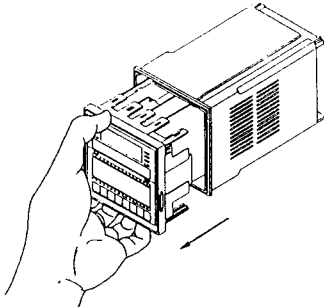
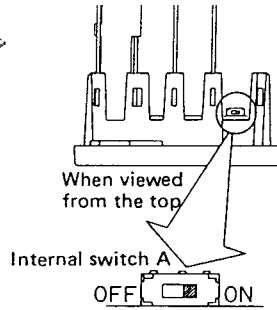

Fig. 1
Fig. 2
As shown in Fig. 1, pull out the internal chassis from the housing while pushing up the stopper at the bottom of the instrument with fingers. Thus, it can be withdrawn from the housing. Next, as shown in Fig. 2, turn ON the internal switch A at the top of the instrument, then push the internal chassis into the housing. Thus the instrument is set to the user initial setting mode.
In order to exit from the user initial setting mode, turn OFF the internal switch shown in Fig. 2.
Pull the internal chassis from the housing as shown in Fig. 1, turn the internal switch B on the top of the instrument to ON as shown in Fig. 3, then return the internal chassis to the housing. Turning the power supply ON causes the display units to display parameter as shown in ① below. Pressing the **[SET]** key starts adjustment, and the display automatically changes in the order of ① → ② → ③ → ④ shown below. Adjustment is complete when display ④ appears. Then, turn the internal switch B shown in Fig. 3 to OFF to return to the normal status.
- ① The vertical line shows levels in which one scale division is 20°C, while the horizontal line shows segments in which each scale division represents one segment.
- ② The lines at the upper section of the graph show segments where the time signal is turned ON. As there are 4 time signal outputs, each scale division from the top is regarded as TS1, TS2, TS3, and TS4 respectively.
* If instruments are mounted just along the sides of the controller, no pattern card can be inserted into the controller. Therefore in this case, slightly pull out the internal chassis of the controller as shown in Fig. 1 and then insert the card into the controller.